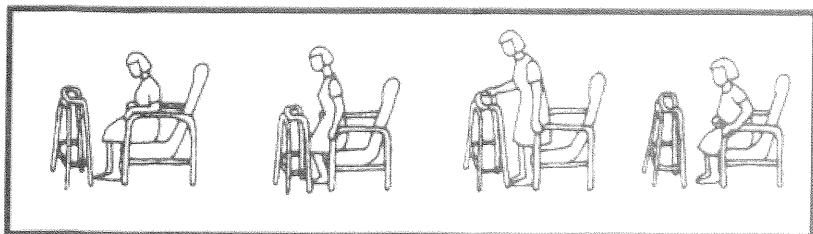

FIG. 4
4. Place hands gently on the chair arms, bend slightly forward and sit down gently (Fig 4).